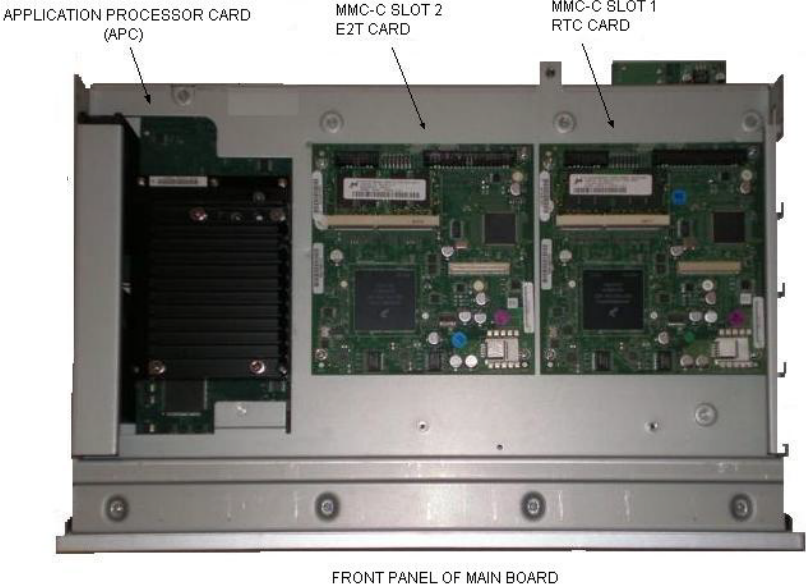

Figure 76: MXe, MXe Server: RTC / E2T/ APC on the Main Board, bottom view
3. Set the main board on a flat surface with the underside facing up. See Figure 76 on page 203.